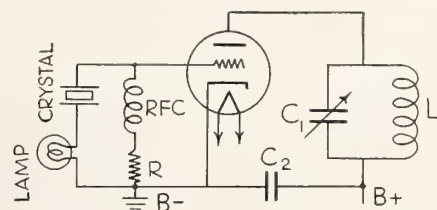
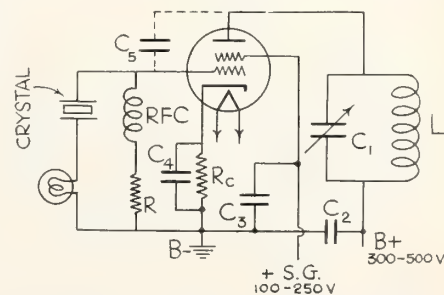

FIGURE 6. *Triode crystal oscillator.*
FIGURE 7. *Tetrode crystal oscillator.*
A typical crystal oscillator circuit (Fig. 6) is built around a triode tube. The theory of operation of this type of oscillator is similar to that of the tuned-grid, tuned-plate circuit. The crystal and its holder act as one tuned circuit, and the plate circuit consisting of L and C1 acts as the other. Feedback is through the grid-plate capacitance of the tube.
Figure 7 shows a circuit containing tubes other than triodes. The theory of operation is similar to that of Fig. 6. It will be seen that a cathode resistor, Rc, is connected in series with the cathode. This circuit provides additional grid bias which, acting in series with the bias developed across the grid leak, R, serves as a safety device. If the circuit for some reason should stop oscillating, the bias developed across R would become zero. This would cause very large plate currents to flow through the tube and, in some cases, would occasion damage.
With the cathode resistor of Fig. 7 a certain amount of negative grid bias will always be available regardless of circuit conditions, since cathode current flows even when the tube is not oscillating. C1 is known as a cathode by-pass condenser and its purpose is to smooth out the voltage developed across Rc, since grid bias voltage must be pure DC and
3. Why is a cathode resistor used in Figure 7?